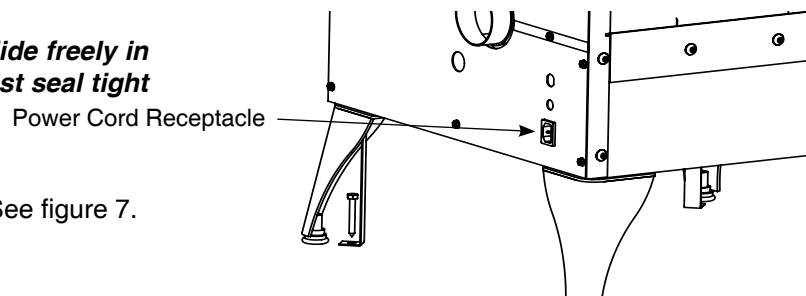

Figure 7: Ash Shuttle Rod Assembly
- Plug power cord into the back of stove. See figure 7.